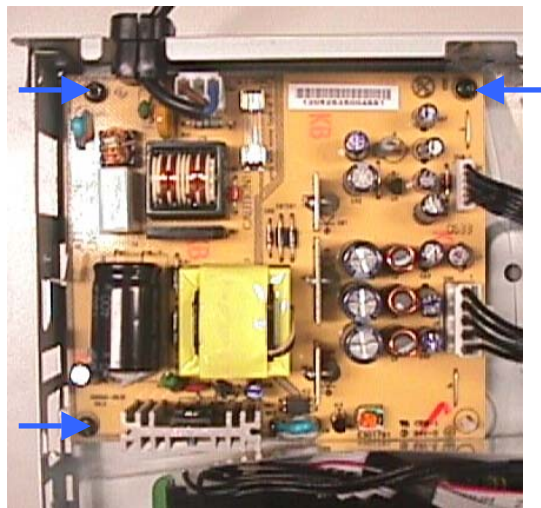

Figure 7 - PSU remove mounting screws
- 1) Remove 3 screws and detach the PSU Board 1005 as shown in Figure 7.